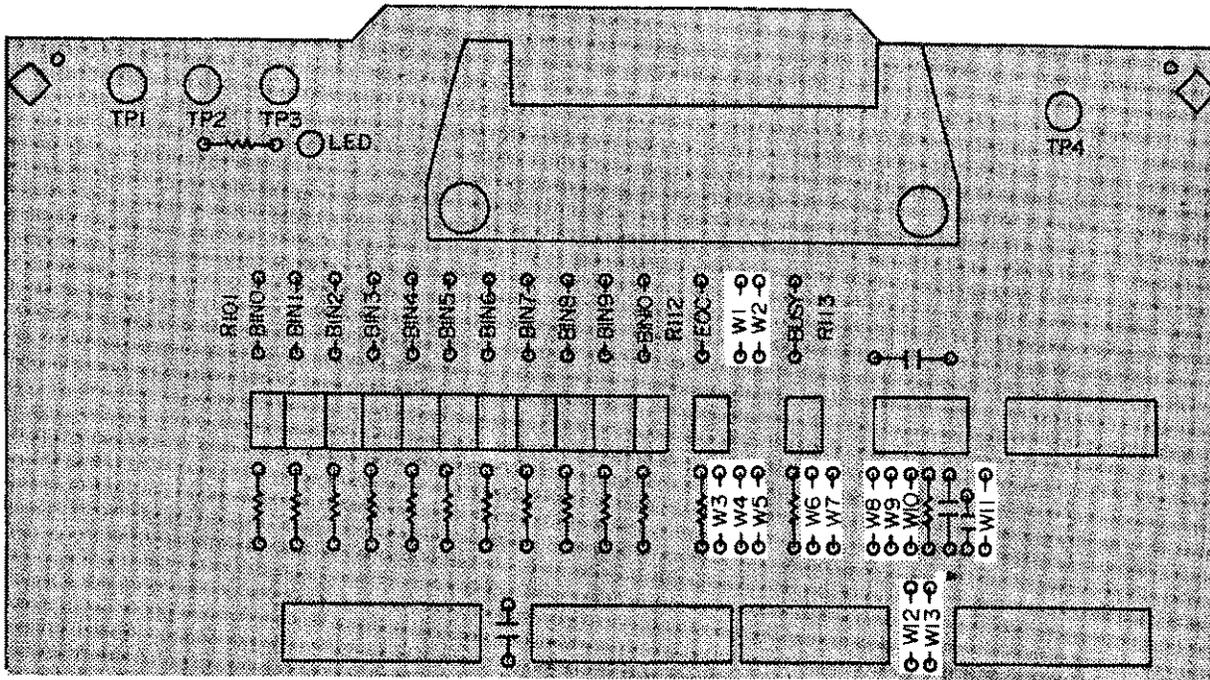
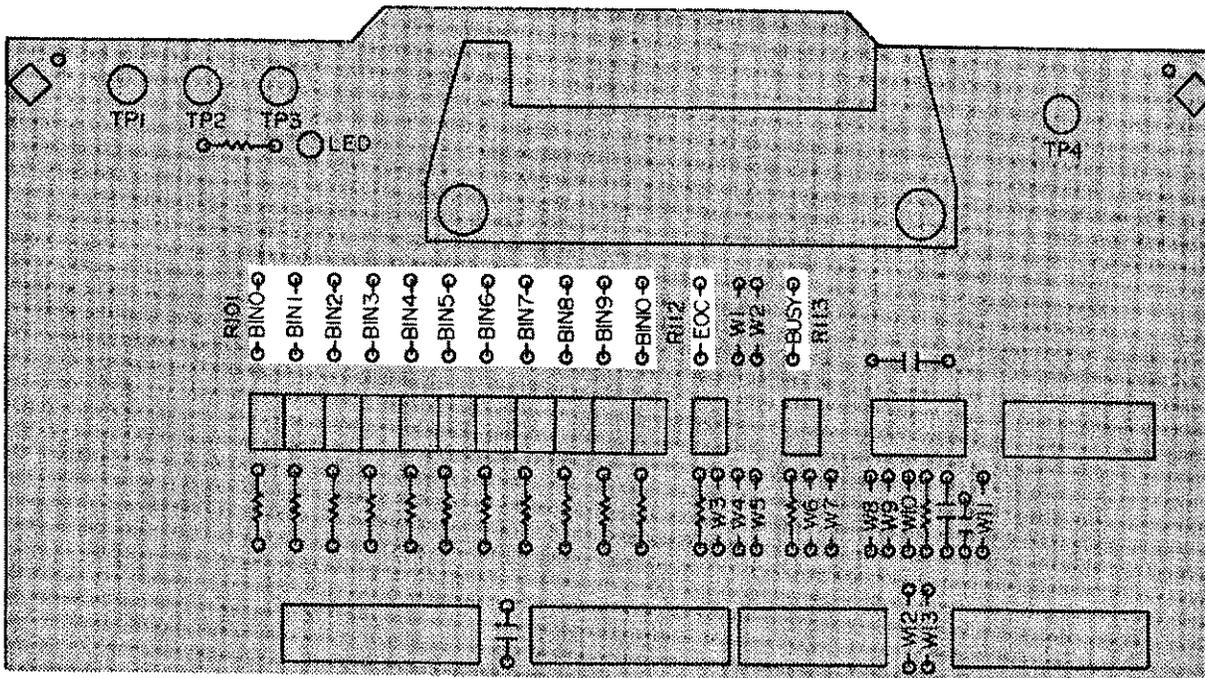
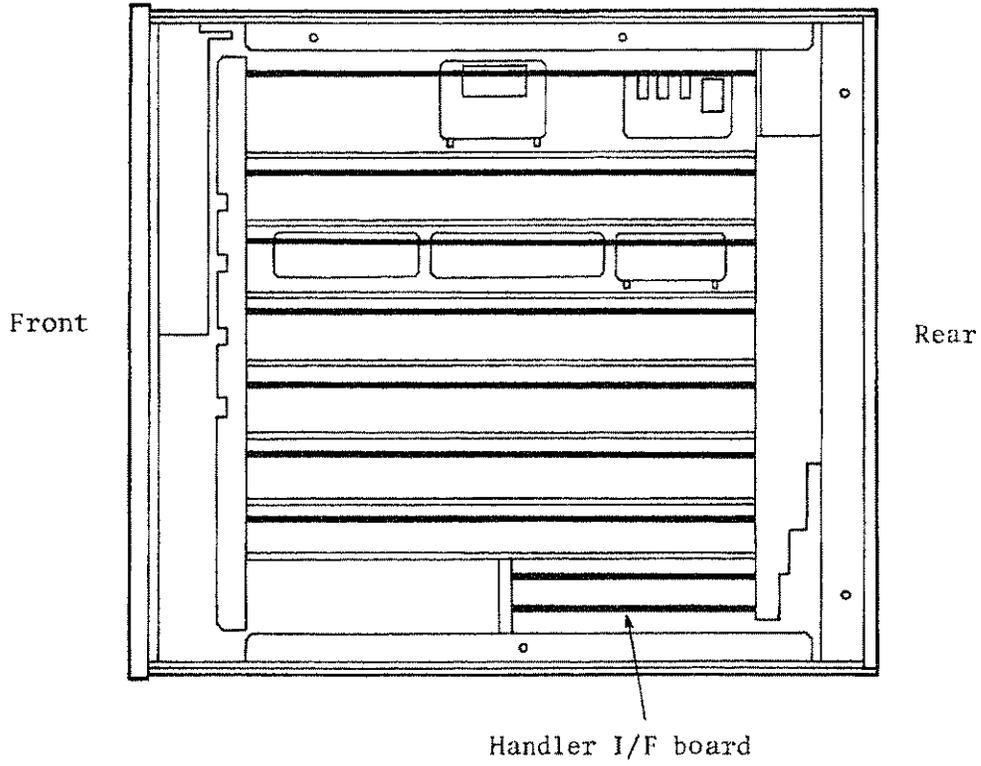

Figure 4-20. Configuration Jumper Locations
Figure 4-21. Pull-Up Resistor Locations
Figure 4-22. Handler Interface Board Location
Setting up the Option 202 Handler Interface board consists of installing jumpers and pull-up resistors as required. Table 4-14 lists the jumpers and pull-up resistors to install for various handlers on the market. Figure 4-20 shows the locations of the handler interface jumpers, Figure 4-21 shows the locations of the pull-up resistors on the handler interface board, and Figure 4-22 shows the location of the handler interface board in the 4278A.
The handler interface has **Brown** and **Orange** extractors. Refer to Figure 4-22 for the location of the handler interface board.
7. If the comparison output signals are TTL levels signals and these signals are not pulled up by the handler, determine the pull-up resistor value ( 1.78K is recommended ) and referring to Figure 4-21 for the locations of the BIN pull-up resistors, install the pull-up resistors.
8. If the control outputs ( **EOC**, **BUSY** ) are to be TTL level signals and these signals are not pulled up by the handler, determine the pull-up resistor value ( 1.78K is recommended ) and referring to Figure 4-21 for the locations of **R112** ( **EOC** ) and **R113** ( **BUSY** ) install the pull-up resistors.
10. Use Figure 4-20 to locate the location of the required jumpers and install the jumpers.
12. Use Figure 4-20 to find the location of the required jumpers and install the jumpers.